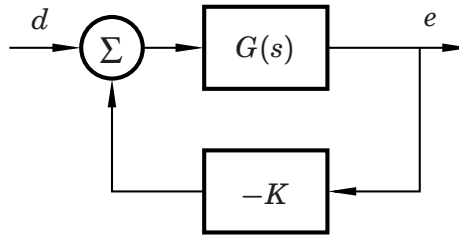

Figure 6 Feedback system in Problem 7.
- b. Let the system be feedback interconnected as shown in Figure 6 with $K \geq 0$. Let $d = 1$ be a constant disturbance. Calculate the stationary error $e(\infty)$ as a function of K . What is the smallest stationary error that may be achieved? (1.5 p)